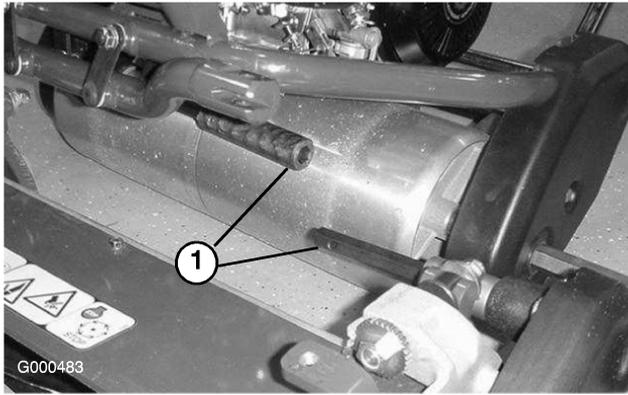

Figure 46
6. Pull cutting unit forward about 2 in. (51 mm) and then to the right to disengage the transmission coupling (Figure 46).